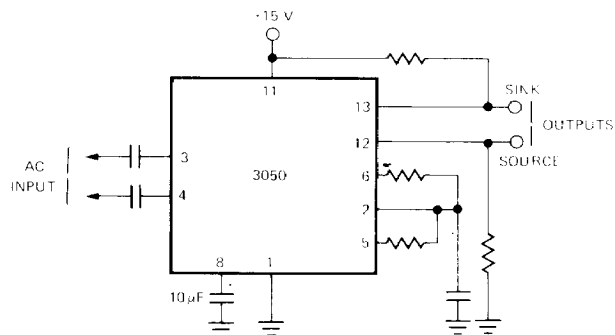

Figure 4: Differential Input, Turn-on and Turn-Off Delay, Sink, Source Outputs.
If it is desirable to measure an AC voltage between two points different from ground, the input configuration shown in Figure 4 is used. *In all of these applications the value of the input coupling capacitor must be chosen so its impedance at the measured frequency is less than 5 kilohms.*
Figure 4 also shows a connection for using both the sink and the source output simultaneously and a mixture of turn-on and turn-off time delay.
**Measured using Figure 4.